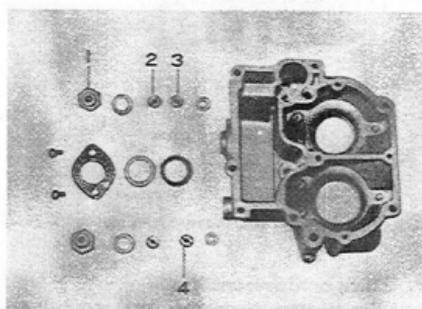

Fig. 5-70 Removing Primary and Secondary Main Jets 01909
f. For removing the primary main jet (3), loosen and remove the main passage plug (1) with
the primary main spare jet (2), and then loosen and remove the primary main jet with the gasket. For removing the secondary main jet (4), loosen and remove it in the same manner as primary main jet. (Fig. 5.70).